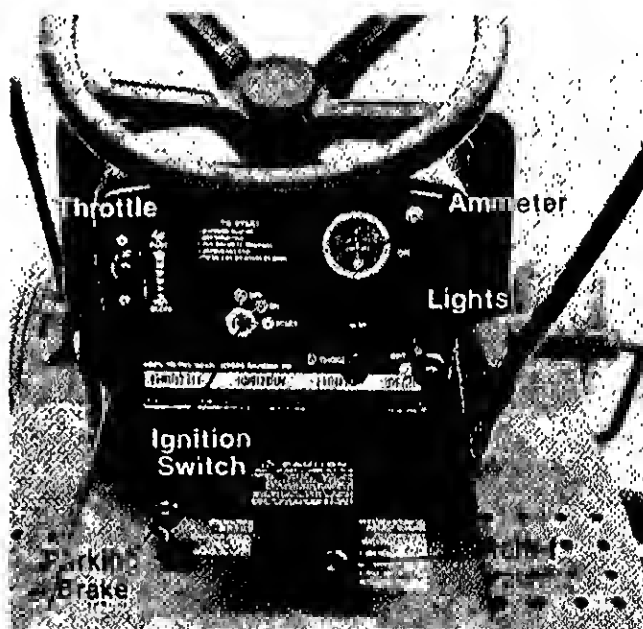

FIGURE 9.
The ignition switch is located in the center of the dashboard. Turn the key to the START position to start the engine. When the engine is running leave the key in the ON position. To stop the engine turn the key to the OFF position. (See figure 9.)
The throttle control is located on the left side of the dashboard and is used to regulate the engine speed. (See figure 9.) The engine should be operated from ¾ to full throttle (FAST) when operating any equipment that uses the tractor engine as a source of power such as the mowing deck, snow thrower or rotary tiller. (See figure 9.)
The head lamps are operated by pushing the light switch located on the dashboard. The head lamps will only operate when the engine is running. (See figure 9.)
The maximum charging rate is 3 amps. The head lamps operate directly from the engine alternator and do not register on the ammeter. (See figure 9.)
To set the parking brake, depress the clutch-brake pedal and pull up the parking brake knob. It will stay in the raised position. To release the parking brake, depress and release the clutch-brake pedal. (See figures 9 and 12.)
To move the riding mower without the engine running, pull up the relief valve and lock it in the raised position. This allows the rear wheels to roll. (See figure 9.)
1. Unscrew the parking brake and relief valve knobs. (See figure 9.)